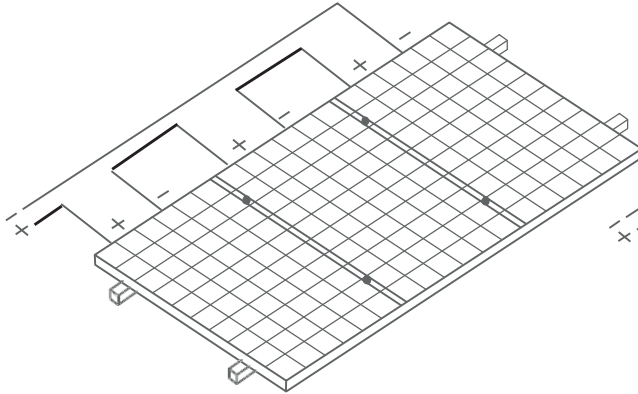

Figure 7 Connection in Series
- It is not allowed to use the Modules in different models in the same solar photovoltaic system. When the Modules are connected in series, the voltage of every string shall not be higher than the maximum voltage of the system (as shown in Figure 7). Reference equation of the maximum number of the Modules in serial connection: maximum system voltage of the module/ (1.25* open-circuit voltage).